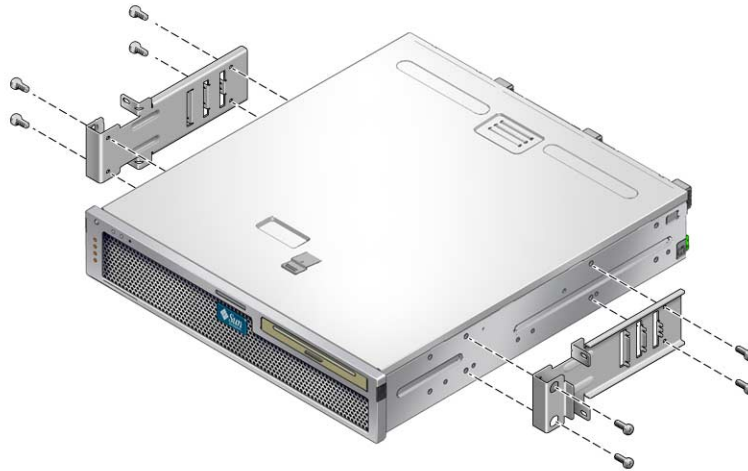

FIGURE 3-9 Securing the Side Brackets to the Sides of the Server
2. Using four of the M5 × 7 SEM screws for each side bracket, secure the side brackets to the sides of the server (FIGURE 3-9).